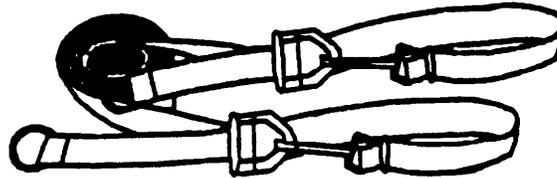

Fig. 1 - Bottom Laddermate - LM100
- 2.02 The BOTTOM-LADDERMATE (Fig. 1) is comprised of *three* sections, the Main Strap, and two End Straps. The Main Strap is constructed of a bright, safety yellow, fabric webbing 1-1/2 inches wide by 14 feet long. It has a tag indicating the date of manufacture and an area for writing in the date when the strap was placed into service. The two End Straps are constructed of the same material, and each has a "slide bar" fastener and a spring-loaded snap hook. The TOP-LADDERMATE is similar in design, but made of a red nylon fabric.